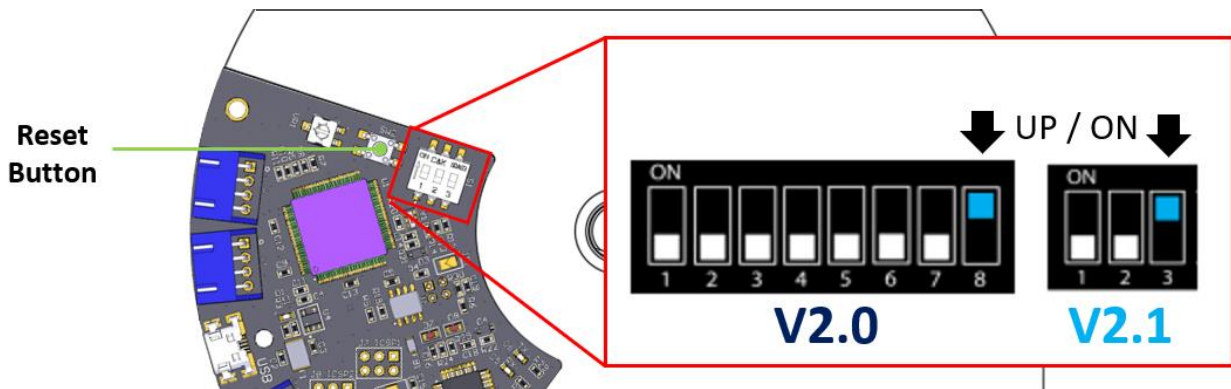

Figure 7: Setup Mode for Software V4.4 and older for Dyno boards V2.1 and older
3. Switch pin #3 or pin #8 to the Up (ON) position and push the Reset button (see Figure 7).
4. Select the Voltage and Current sensor from Voltage and Current Sensor drop-down option (see Figure 7).